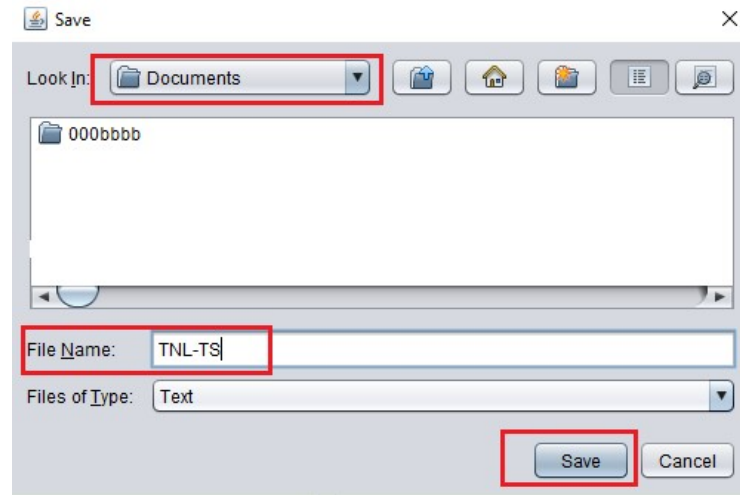

Figure 17: Save window.
Step 17: Click on Run button. A Save pop-up window opened as shown in figure 17.